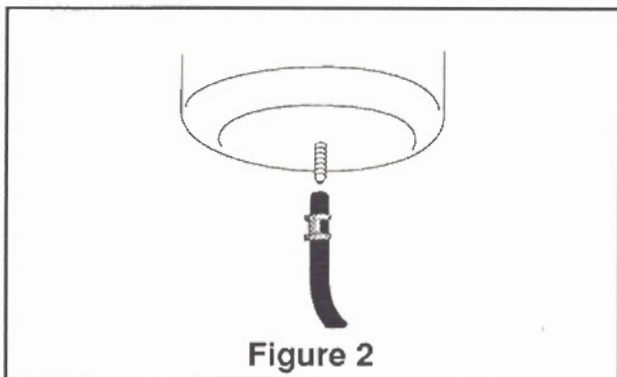

Figure 2
- H. Push the tubing onto the stem, covering all the barbs (Figure 2).